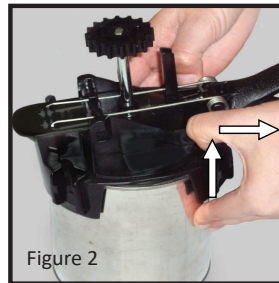

Figure 2
- Push the rear tabs toward the back of the can while lifting the lid slightly. (Figure 2)